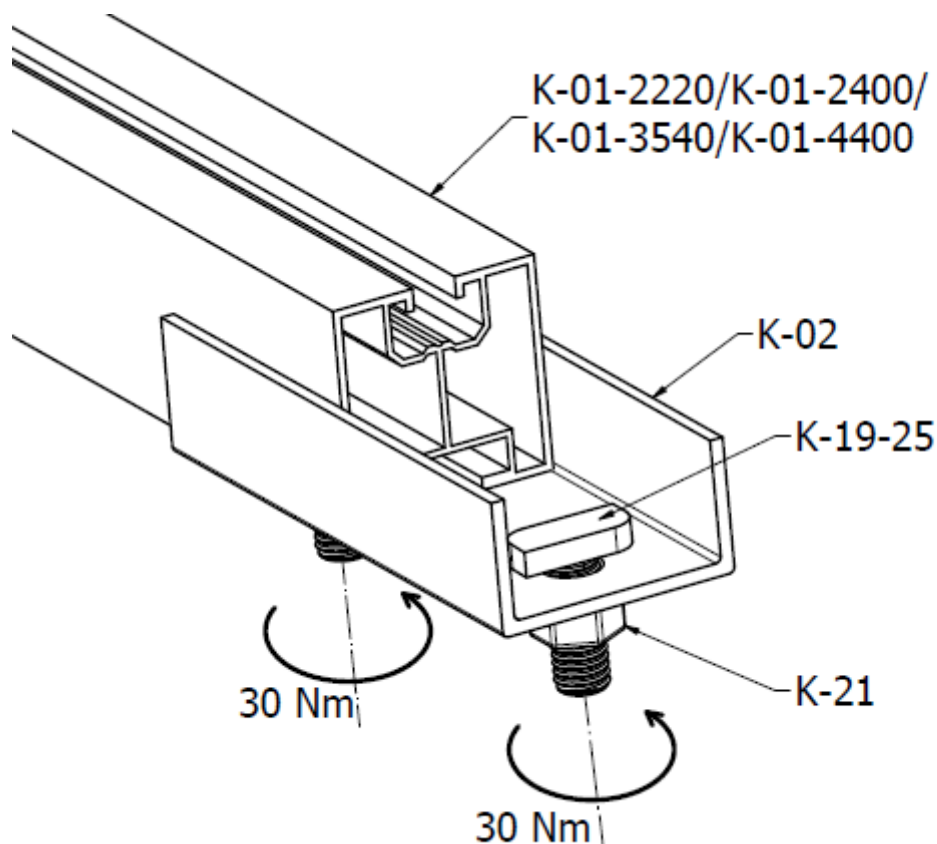

FIGURE 14 Mounting of the K-02 connector
10. After mounting the brackets, prepare the mounting profiles by connecting them to the appropriate length using the K-02 fasteners by placing them on the ends of two adjacent profiles. Twist the connector using two "T" bolts 25 (fig.14). Profiles can be cut to the required length. **Tighten fasteners 30Nm.**